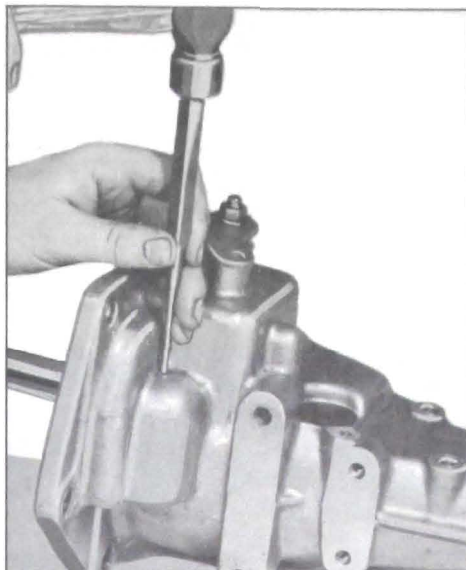

Figure 4-64—Removing Reverse Idler Shaft Lock Pin
1. With case extension removed from the transmission, drive the reverse idler shaft lock pin into the boss until it falls into the clearance hole in the shaft. See Figure 4-64.